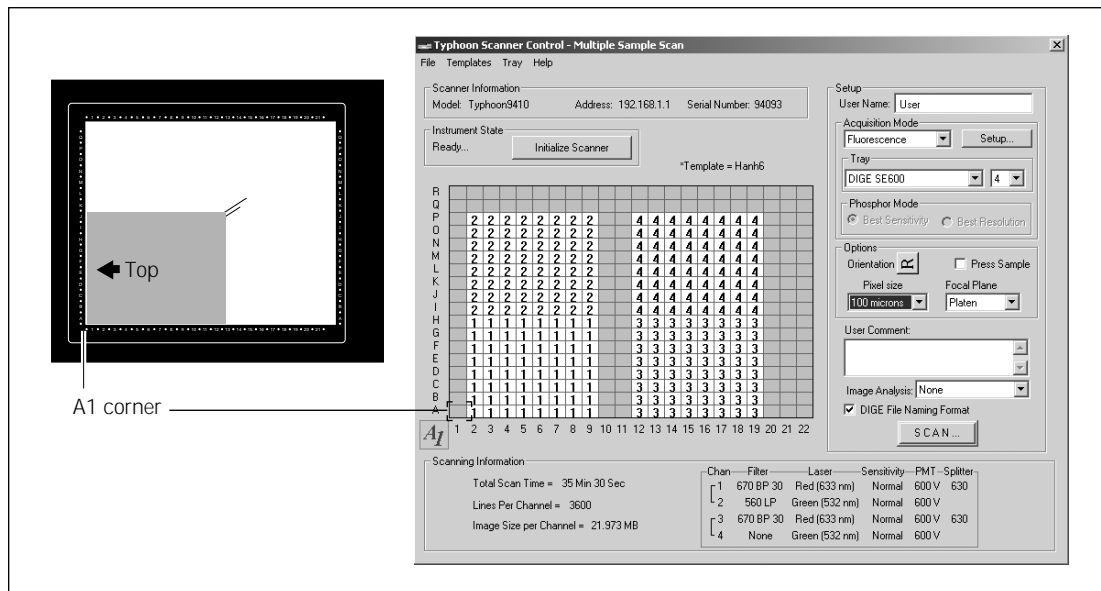

Figure 9-2. Selecting the scan area.
2. Place the pointer in the grid square that corresponds to the lowest lettered and numbered grid square of the area you want to scan (figure 9-2). For example, grid square A1 is the lowest lettered and numbered grid square on the glass platen.